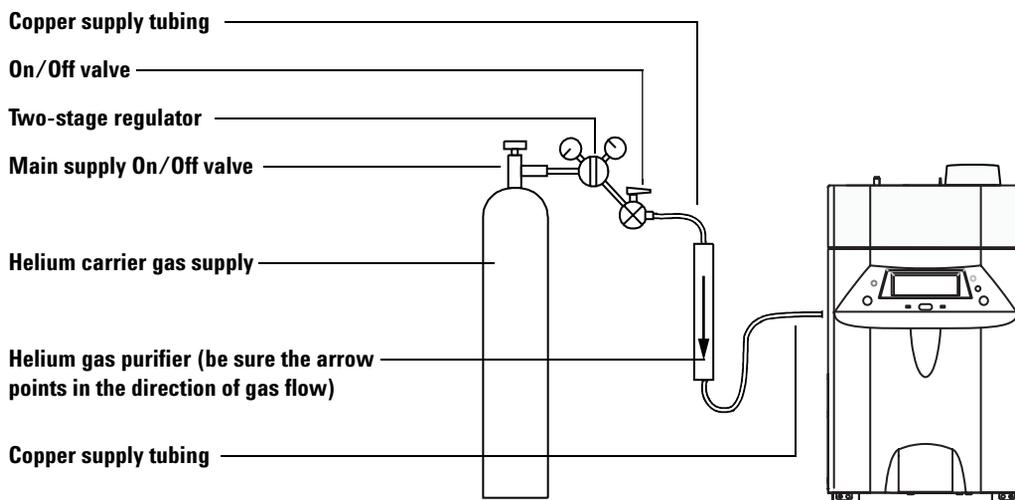

Figure 3 Connect helium
- 1 Connect the 6-foot copper tubing (or a custom length) to the carrier gas supply line (Figure 3).